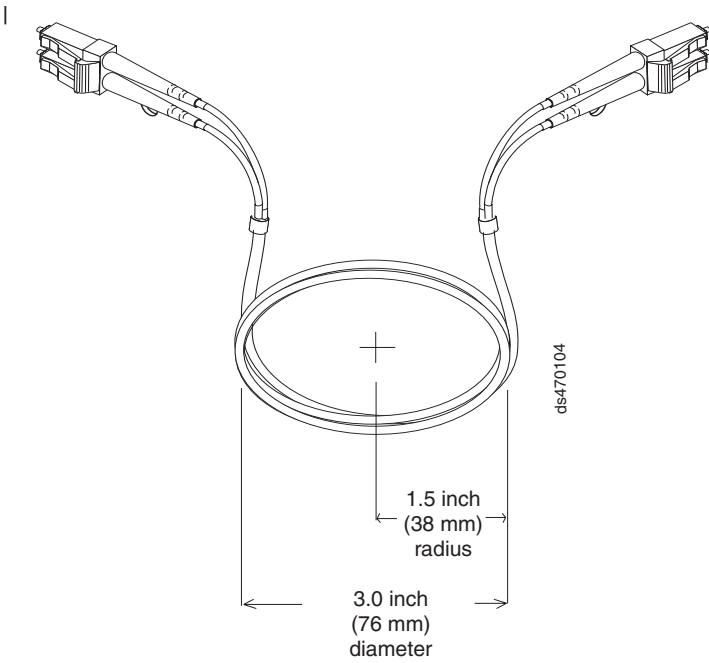

Figure 1. Recommended bending and looping specifications for fiber-optic cables
- | • When storing excess or unused fiber-optic cables, do not bend the cables to a diameter of less than 76 mm (3 in.), or a radius less than 38 mm (1.5 in.) or wrap them around themselves. See Figure 1 on page 4.